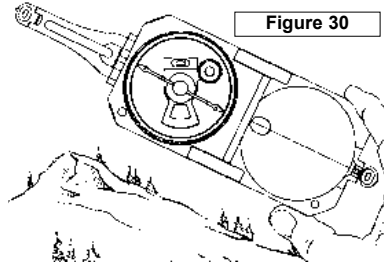

Figure 30
3. Measure plunge using a Brunton non-magnetic tripod, or by holding the transit in your hand. (Fig. 30)